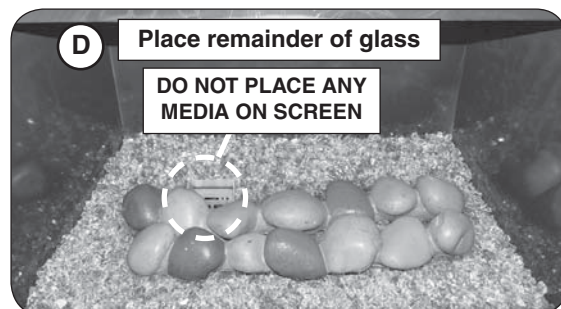

Fig. 29-3 Install media - **glass w/ stones**
4. Pour the remainder of the glass media evenly into the burner area, around and between the strips (see Fig. 29-3).